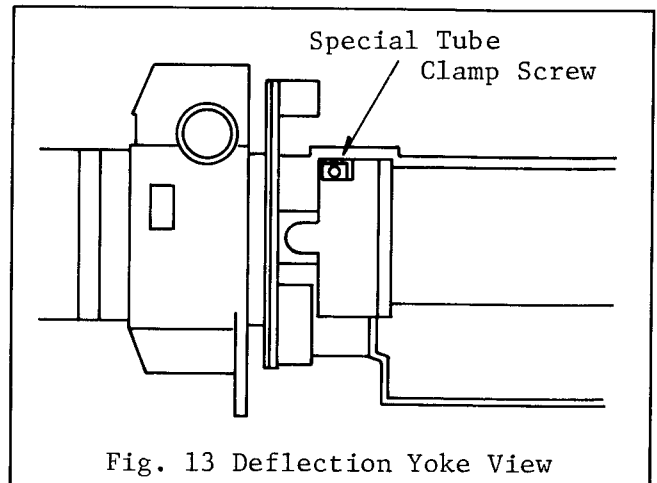

Fig. 13 Deflection Yoke View
5. Loosen the special tube clamp screw on the deflection yoke assembly as shown in Fig. 13.